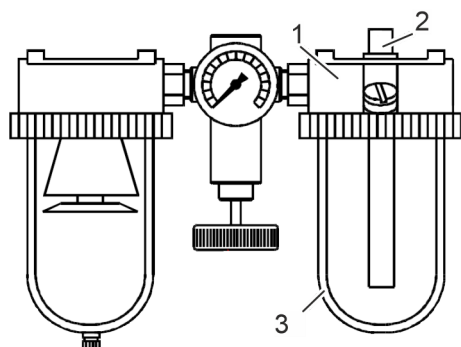

Fig. 16: Setting the oil mist lubricator
1. ➔ Check the oil level on the oil mist lubricator (Fig. 16/1). If the level is low, top up the oil ↗ *Chapter 10.5 'Filling the oil mist lubricator' on page 52.*
2. ➔ Set the oil quantity (drops per minute) during operation at the dosing screw (Fig. 16/2). The number of drops is visible in the sight glass.